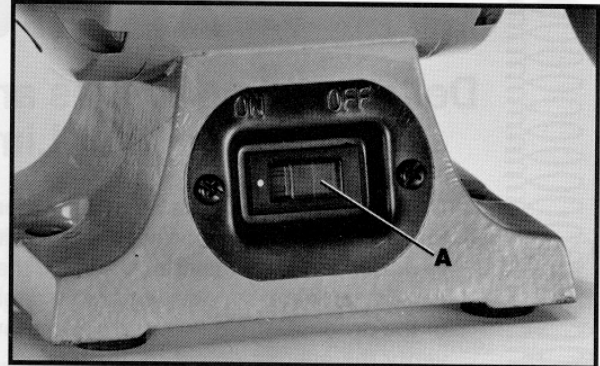

Fig. 10
The switch (A) Fig. 10, is located on the front of the grinder. To turn the grinder "ON" push the left hand portion of the switch, and to turn the grinder "OFF" push the right hand portion of the switch.